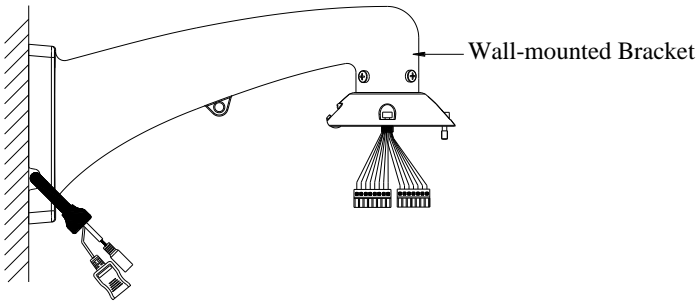

Fig 2
Step 2: through the integrated line across wall-mounted bracket, and fix the wall-mounted bracket to wall(as Fig 2)